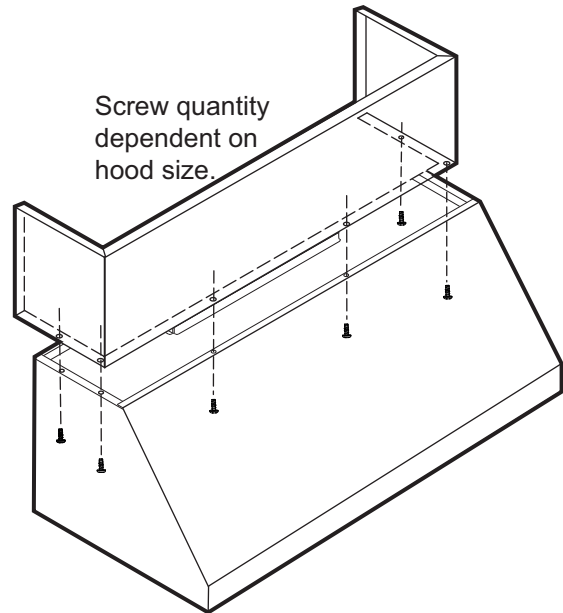

Figure 16: Attachment of Duct Cover(s) to Hood
Duct covers, sold separately, are available to cover the space between the top of the hood and ceiling (see *Figure 16*).
Optional duct covers shown in *Figure 16* may be used to fill the space between the hood and ceiling in wall mount installations. 6" (152 mm) and 12" (305 mm) high duct covers are available and may be ordered separately (see *page 4*)
2. Attach the duct cover(s) to the hood using sheet metal screws as shown in *Figure 16*.